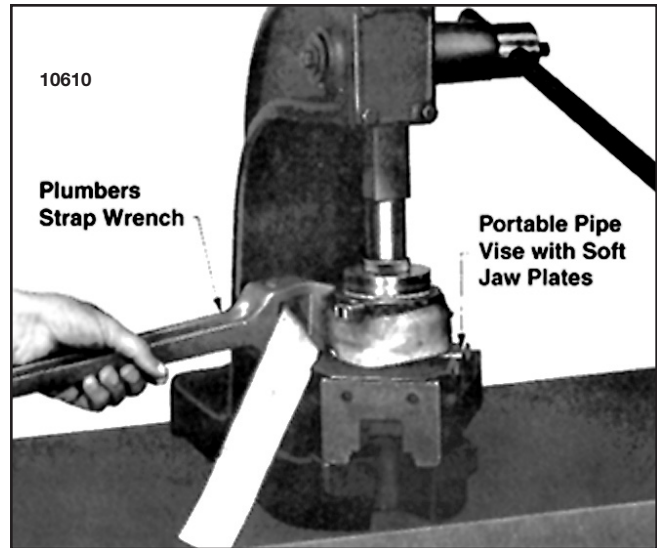

Figure 7-25. Winding Load Brake Gear Using a Strap Wrench to Set Up Load Brake Spring
6. The brake spring must be pre-loaded at assembly to a torque of from 6 to 10 lb. ft. when used with yellow (color code) spring and a torque of 10 to 14 lb. ft. when used with plain (no color code) spring. (See Section IX for proper spring). This is accomplished using a plumber's strap wrench to wind (rotate) load brake gear to set up spring (fig. 7-25) while pressing brake flange into place using an arbor press. Clamp pinion end of shaft into a portable vice to keep brake from rotating in press. Use brass or copper jaw plates on vise to protect pinion gear teeth. Wind gear counterclockwise (viewing brake from flange end) with strap wrench and press down on flange until snap ring groove in shaft is exposed allowing snap ring to be installed. Use extreme care not to over wind spring as yield will result and final spring torque will be reduced. Do not wind gear beyond point necessary to install snap ring in groove.